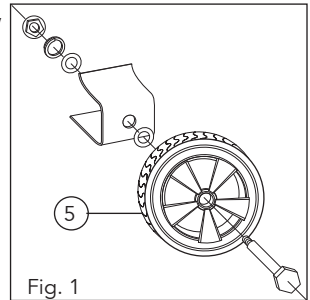

Fig. 1
### Fitting the wheels (5) (Fig. 1):